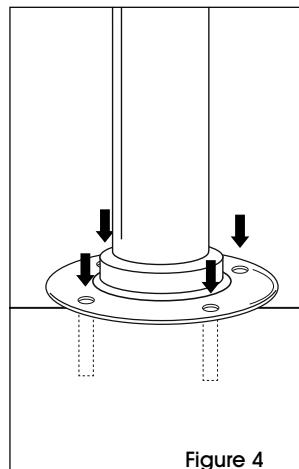

Figure 4
1. Determine position for the pole. Pre-drill four holes into surface. (See Figure 4)